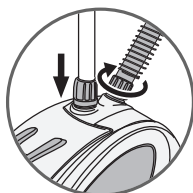

fig.2
1. Insert the telescopic pole into the base and turn the locking ring to secure it into place - fig.2
4. Connect the hose to the base by turning the connector on the end of the hose clockwise - fig.2